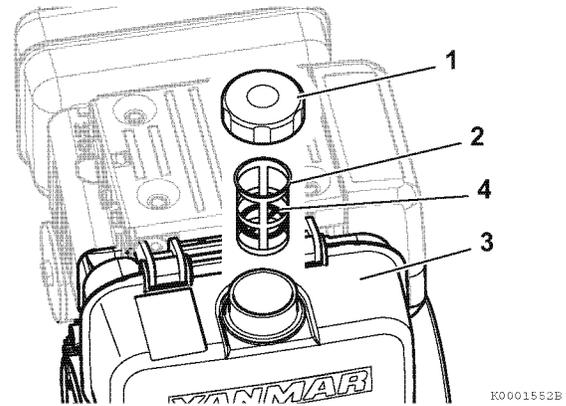

Figure 1
1. Clean the area around the fuel cap (1, **Figure 1**).
2. Remove the fuel cap (1, **Figure 1**) from the fuel tank (3, **Figure 1**).
3. Stop fueling when the fuel is at the same level as the red ring (4, **Figure 1**) at the bottom of the inlet fuel screen. Never overfill the fuel tank.
4. Replace the fuel cap (1, **Figure 1**) and hand tighten. Over-tightening the fuel cap will damage it.